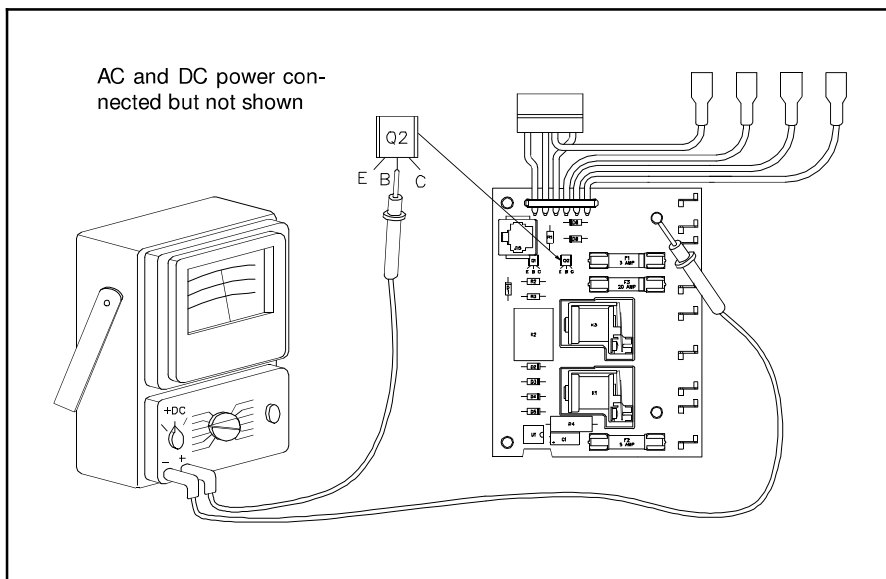

Figure 11.55 12 Volt Check at Q2 Base
11. With the Mode Selector at DC-ON and 12 Volts present at the emitter of Q2, check for 10 volts DC at the base of transistor Q2 on the Power Supply as shown by Figure 11.55. If you do not have 10 volts, the Power Supply is defective and must be replaced.